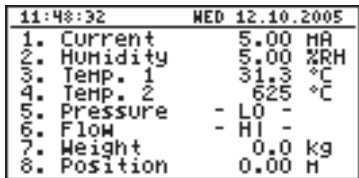

Fig. 6.7. "Channels list" mode (values)
- "Channels list" mode (Fig. 6.7, 6.8) enables the measurement results for all active measurement channels to be viewed in numeric or graphic (bar) form.